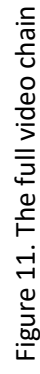

Figure 11. The full video chain
4. Connect all components and refer to the global system presented in Figure 11 for more details. Propose a testbench, be careful the simulation is then very long. Do it in parallel with other tasks. After how long the system is locked?